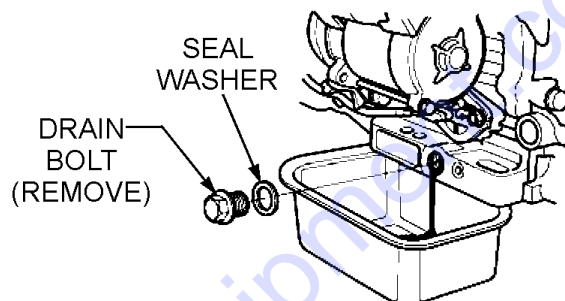

Figure 35. Draining Engine Oil
1. Drain the engine oil when the oil is warm as shown in (Figure 35).